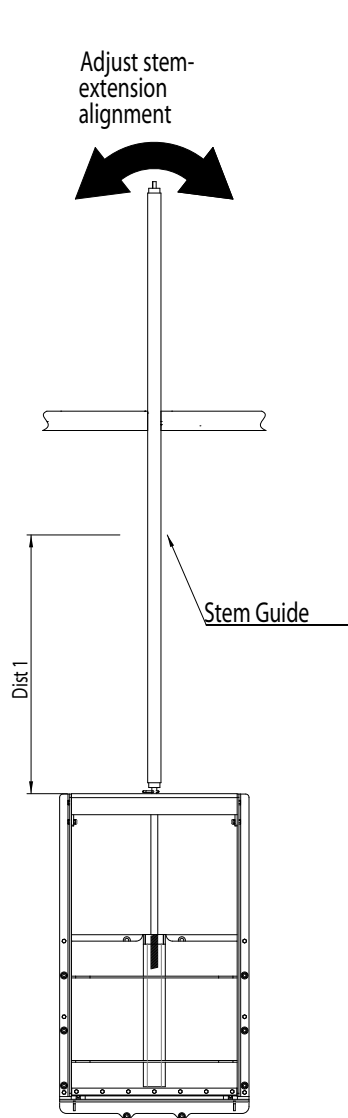

Figure 10
2. Insert all stem guides from the top of the stem extension. Align stem extension, and especially make sure that it is aligned with the vertical axis of the opening (see Figure 10). For 2" square nut operated penstock, the stem guides shall be inserted onto the stem extension from the bottom.
3. Next, install all stem guides (drill and tighten anchor bolts). Refer to General Arrangement Drawing for dimensions ("Dist 1" in Figure 10).